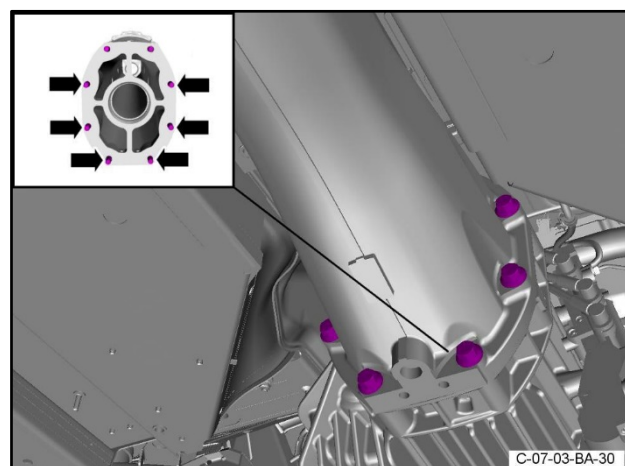

Figure 46
89. Install six of the eight bolts that attach the transaxle to the torque tube (refer to Figure 46).